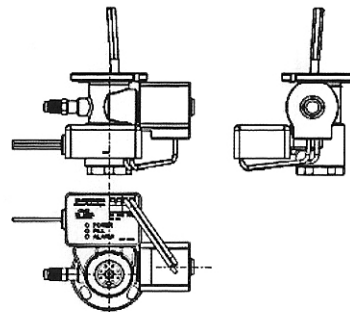

FIGURE 2
**Note: OMB units used on scroll compressors require the use of an injection tube this tube is shipped wired to the unit but not installed. It is to be screwed into the rear of the unit, and tightened hand tight plus one half turn. When properly installed, the tube will be at a slight angle relative to the OMB. See figure 2 below.**